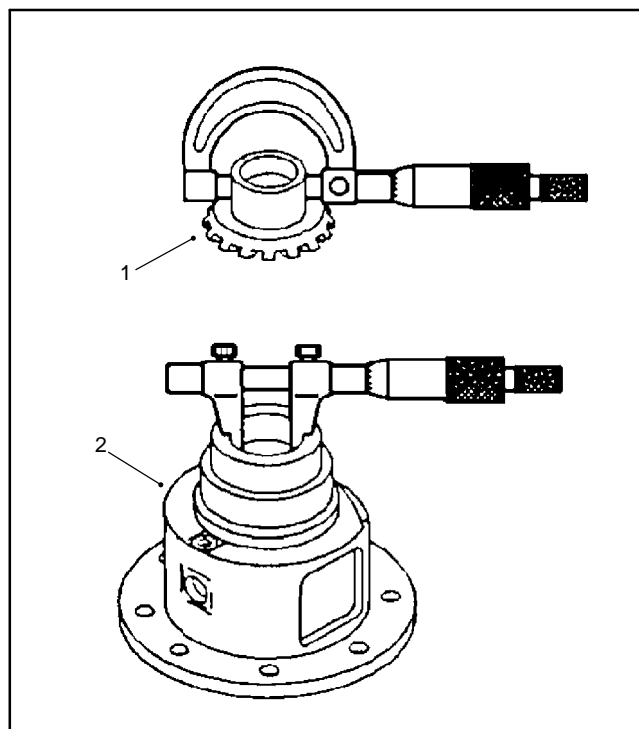

Figure 39
1. Measure the differential side gear O.D. and the differential case I.D. to determine the side gear to case clearance (Fig. 39). Replace components as necessary.